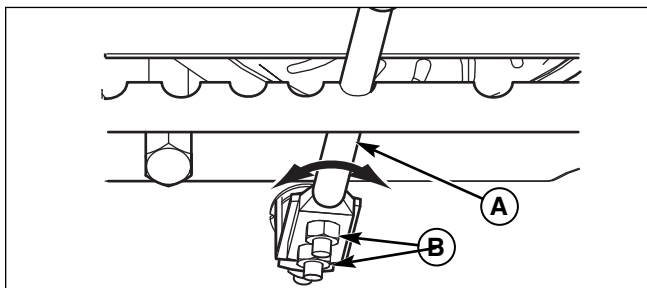

Figure 23. Shift Lever Adjustment
7. Loosen shift lever screws (A, Figure 23), and position the shift speed lever in the lowest forward speed.
10. Tighten the 1/4-20 shift lever nuts (B, Figure 23) to 60 lb-in. (6,8 Nm).